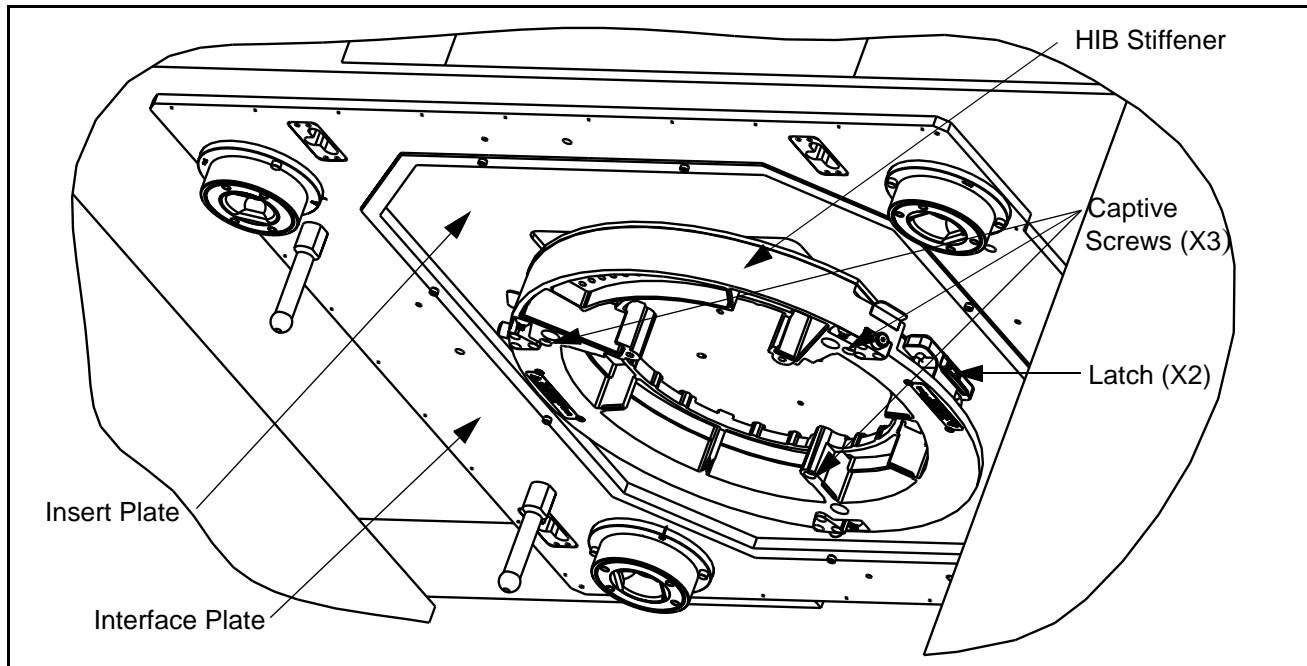

Figure 17 Fully Attached HIB Stiffener, Insert Plate, and Interface Plate
- 3) Depress the QDC handles and lift the HIB stiffener onto the QDC pins until the HIB board makes full contact with the handler seal block/dock plate (see Figure 17 for the fully attached HIB stiffener/interface plate).
- 4) Secure the HIB stiffener by fastening the three HIB stiffener captive screws to the insert assembly plate (see Figure 17). Refer to Table 11 for torque specifications.
- 1) Unscrew the three captive HIB stiffener screws (see Figure 17).